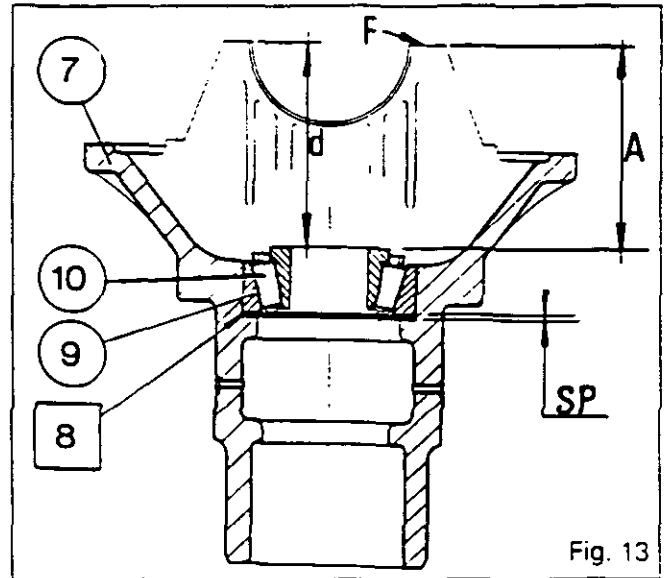

Fig. 13
44. Adjust the position of the bevel drive pinion (Fig. 13). The thickness of the shims needed to position the bevel drive pinion correctly is calculated according to the formula :  $SP = A - (d \pm t)$
**A** : distance measured between the bearing cone (10) placed in the cup (9) and the machined face F of the casing (7).
### Method of operation (Fig. 13)